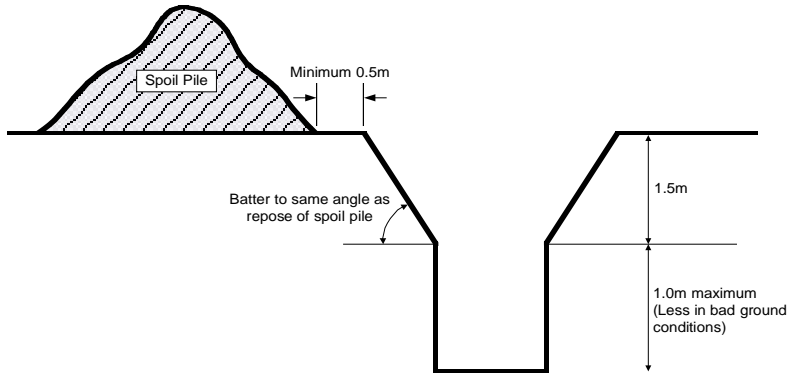

Figure 1. Battering the sides of trenches. Eg. 2.5m deep in stiff clay
- Trenches shall be a maximum of 1.5 metres with out battering. See Fig. 1.